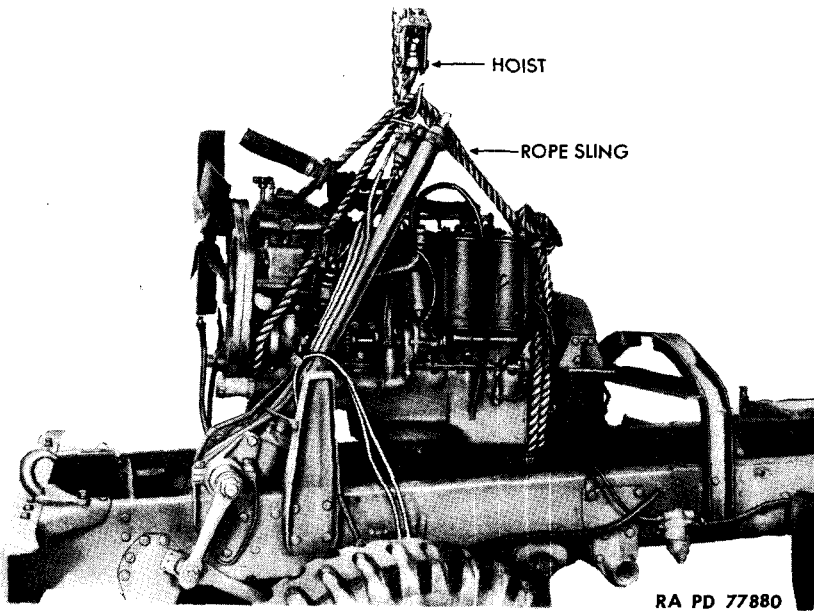

Figure 24 — Removing Engine From Vehicle
- uu. **Attach Rope Sling to Engine** (fig. 24). Loop center of rope under crankshaft starting jaw housing. Bring ends of rope diagonally across top of engine, crossing them at center; then pass each end of
ww. Remove Engine From Vehicle (fig. 24). Raise engine slowly off supports, checking disengagement of all wires and parts. Shift position of vehicle as necessary to provide clearance. Continue raising engine, and remove from vehicle. Remove front engine support bracket spacer.
a. Attach Rope Sling to Engine (fig. 24) (par. 56 uu).
b. Position Engine on Vehicle (fig. 24). Install four new support blocks on rear engine support extensions, and position blocks on extensions. Position support bracket spacer on front engine support. Raise engine to position at front of vehicle, and then lower slowly to front support and rear support extensions. **CAUTION: Maintain adequate clearance for parts and assemblies.**